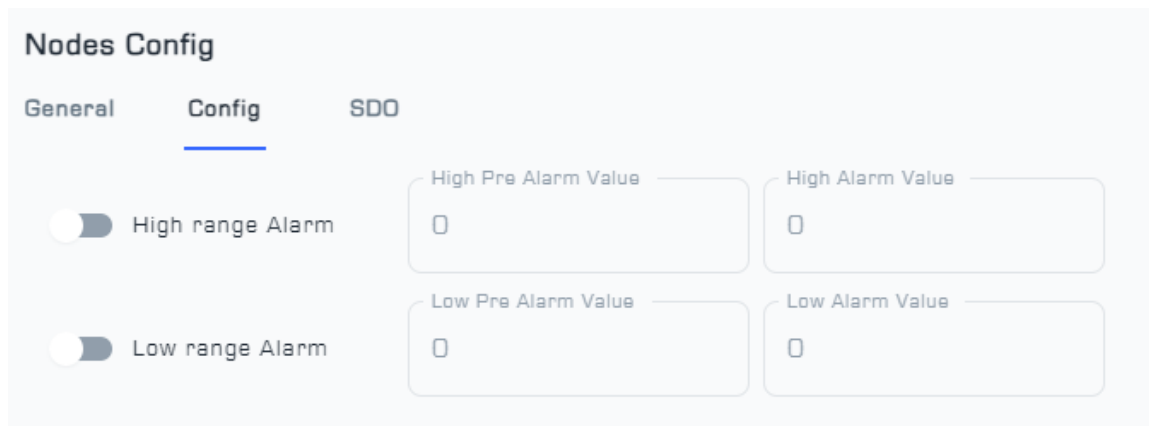

Figure 6: Config Menu from Node Config
■ In the Config menu of the wireless AC voltage Level Node, as shown in Figure 6, the alarm settings of the Node can be configured. The High Alarm Value and High Pre-Alarm Value are related to setting the alarm and pre-alarm for the maximum danger value for the Node, and the Low Alarm Value and Low Pre-Alarm Value are related to setting the alarm and pre-alarm for the minimum danger value for the Node.